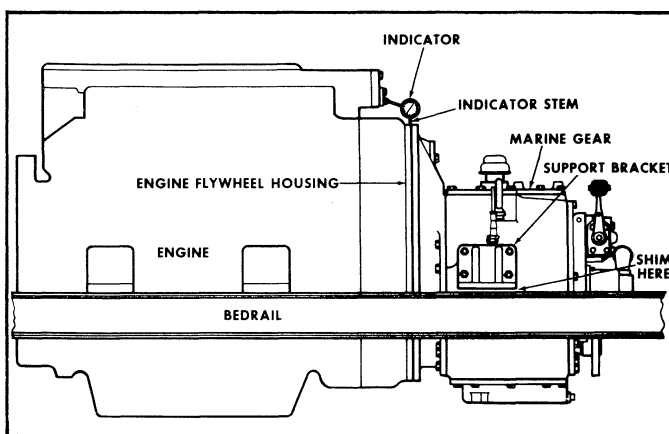

Figure 45. Alignment of Engine and Marine Gear.
B. Alignment (Fig. 45). Install the support brackets on the side mounting pads of the marine gear. Install the driving ring on the engine flywheel.